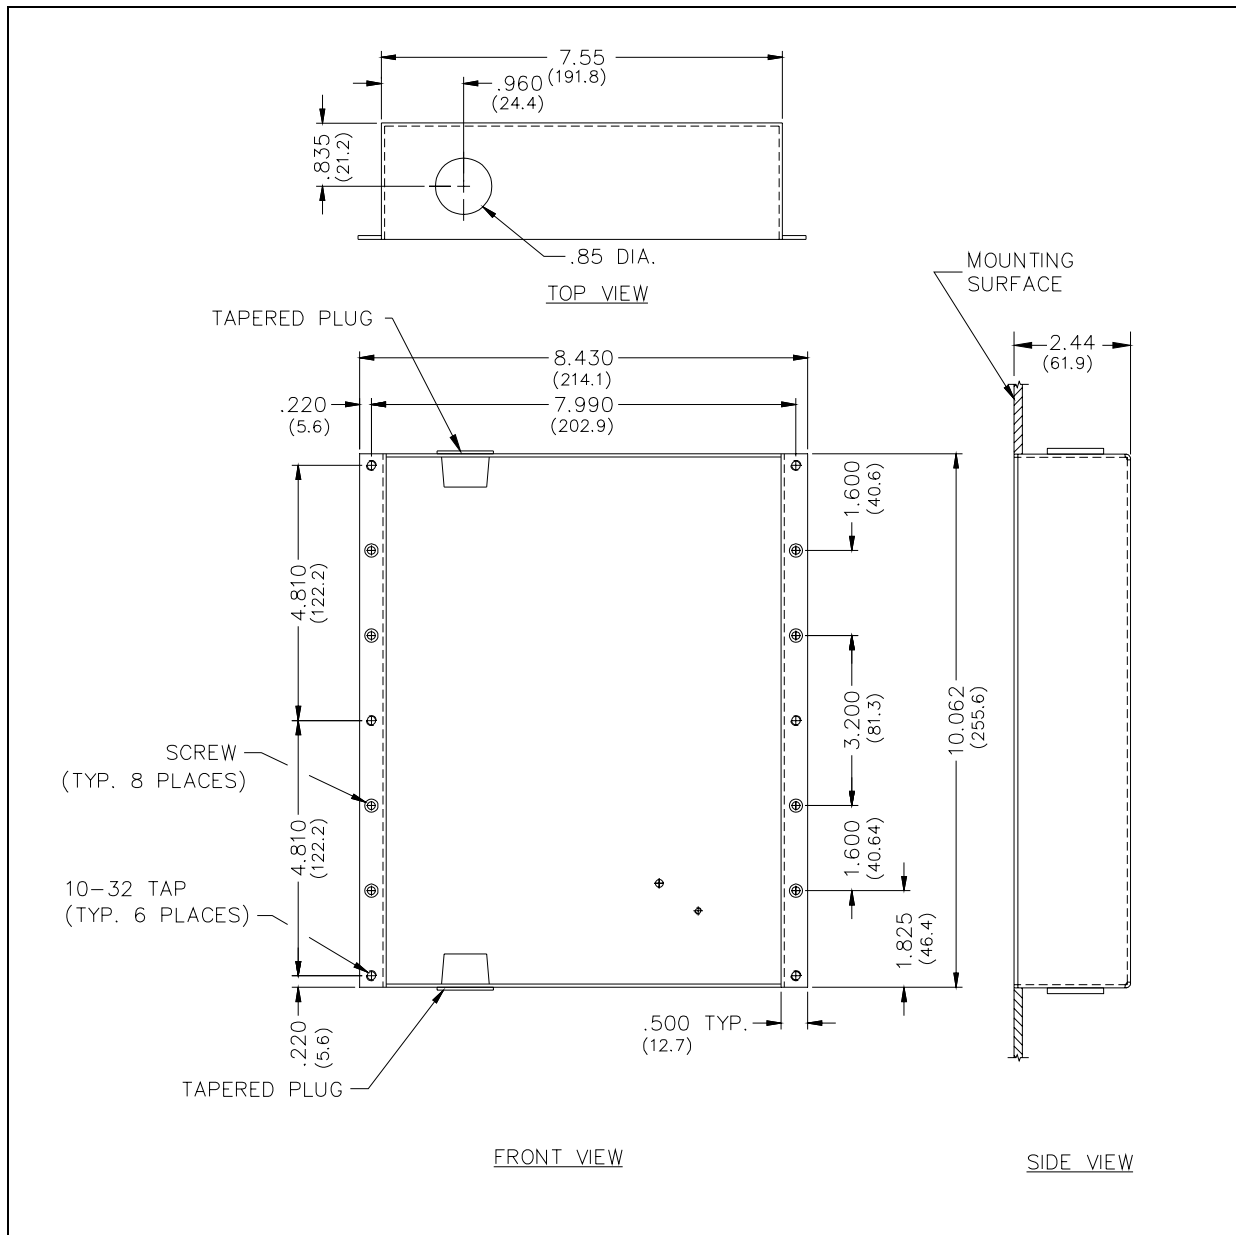

Figure 15. Flush-Mount VoIP Telephone Mounting Details
1. Use the supplied back box to mount the Model 297-700, 297-701, 297-702, 297-703, 298-701 and 298-702 VoIP Telephones in flush-mount applications or in a GAI-Tronics Model 234 Series Stanchion. Mount the back box to the structure using the appropriate hardware. Refer to Figure 15 cutout dimensions.